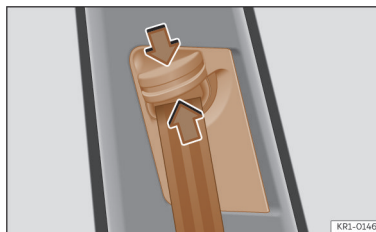

Fig. 27 Near the front seats: seat belt height regulator.
- Keep the guide device pressed down in the direction of the arrow >>> Fig. 27.